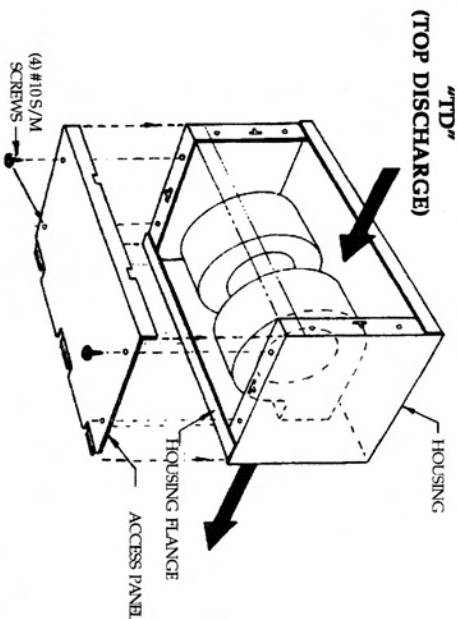

FIG.2
- 2) REASSEMBLE THE ACCESS PANEL: ROTATE THE ACCESS PANEL 90 DEGREES AND REMOUNT IT TO THE HOUSING. REINSTALL THE FOUR #10 SCREWS. SEE FIG. 2.